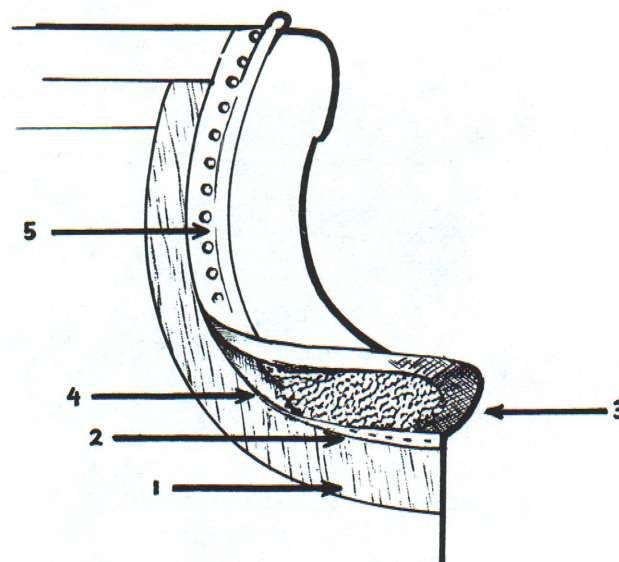
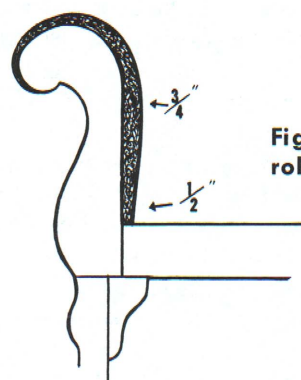

Fig. 29—A stuffed edge roll for front of arm.
Fig. 30—Shaped edge roll on curved arm.
A small roll of padding should be tacked on the edges of the frame of the arms, back and wings which will be covered. This roll (1) keeps stuffing from working away from the edges, (2) gives a firm foundation for other padding, and (3) keeps edge of wood from wearing the cover. You can buy prebuilt edge rolls, make them on a chair or make them and tack to the chair. (Figs. 29, 30 and 31).
To make a small edge roll on the chair, cut a piece of burlap 2 inches wide and as long as the edge to be padded. Cut it straight with the thread for straight edges and bias for curved. Use wider burlap strips for larger rolls. Place  $\frac{1}{2}$ " of one edge of burlap on the edge of the wood, covering it with a  $\frac{1}{2}$ " strip of cardboard. On outside curves lay a few pleats in the burlap to give needed fullness. The cardboard must be flush with the edge of the wood (Fig. 29). The other  $1\frac{1}{2}$  inches of burlap will extend beyond the wood. Tack the burlap and cardboard to the wood. Pack some moss into a very firm even roll about  $\frac{3}{4}$ " to 1" in diameter—tapered to  $\frac{1}{2}$ " at the ends (Fig. 30). Lay the roll of moss on the
cardboard, pull the burlap very tightly over it, and tack to the frame with a second row of tacks just outside the first (Fig. 29).